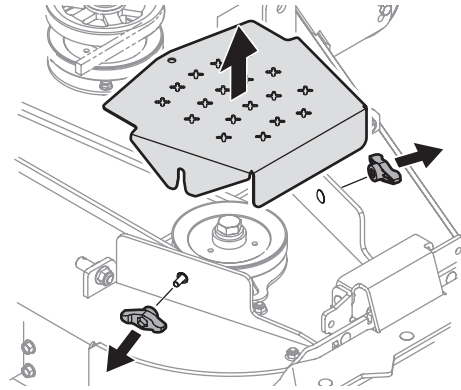

Figure 16
- Clean the top of the mower deck, under the spindle covers and belt area. See Figure 16.